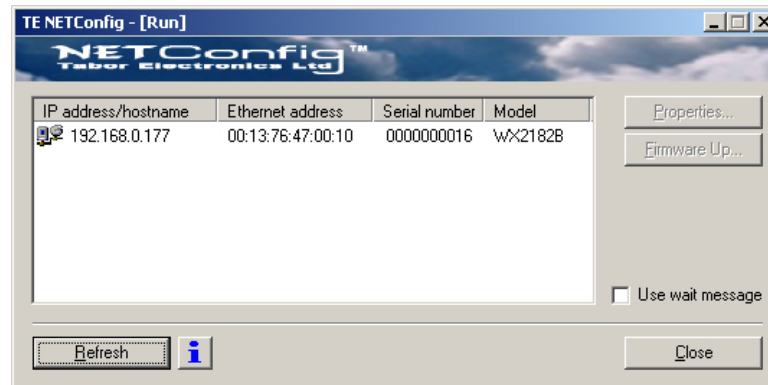

Figure 6-6: WX2182 has been Detected on the LAN Network
5. As soon as the progress bar reaches the far right-hand side of the bar, click on the Refresh button. If your device was connected and booted correctly, the device address will appear in the device list, as shown in Figure 6-6.